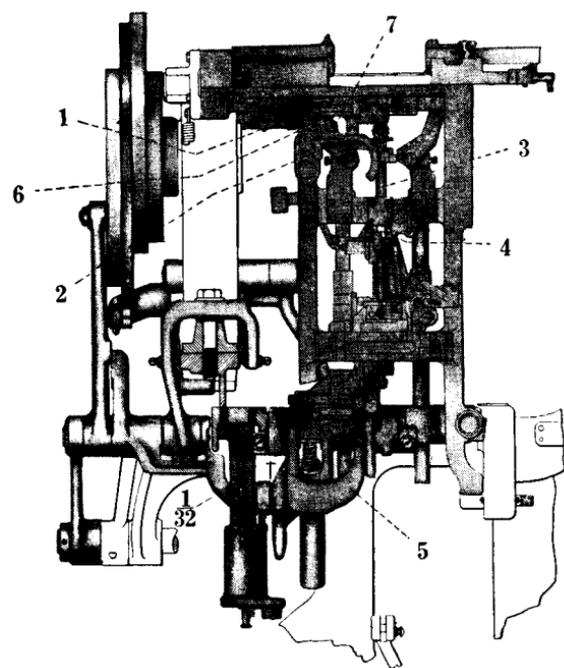
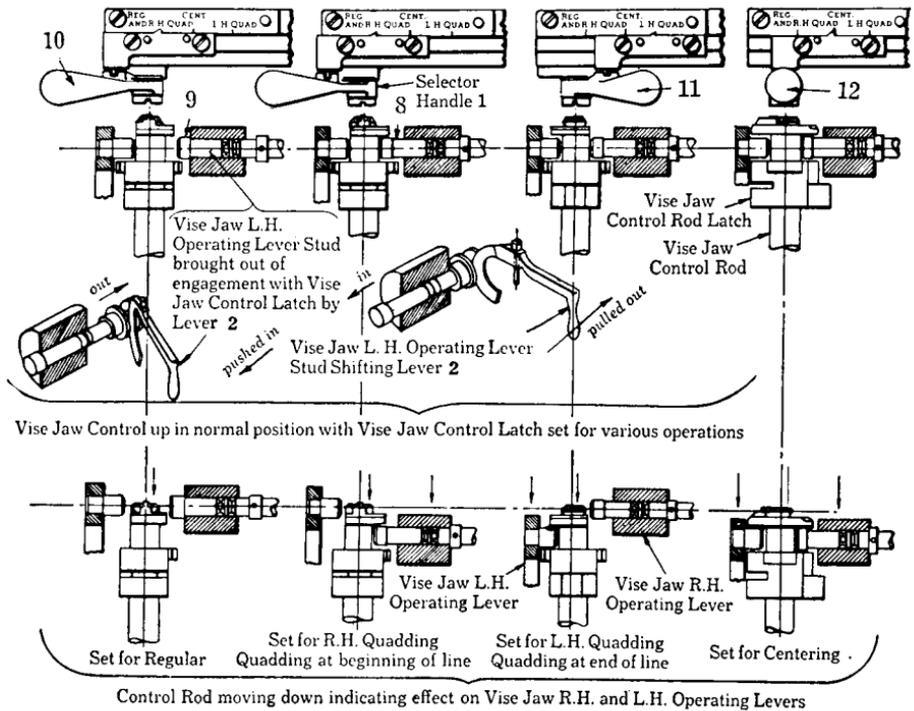

FIG. 1-32. Front view of the Self-Quadder mechanism.
FIG. 2-32. View showing position of the vise jaw control rod latch with respect to position of selector handle.
The functions of the Self-Quadder can be eliminated by simply pushing in the lever 2, Fig. 1-32 when the selector handle is set at "Reg.". The machine can then be operated as any Linotype not equipped with the device, with the exception of casting
blank slugs. Blank slugs can be conveniently cast by pulling out the lever 2, Fig. 1-32, putting the Self-Quadder back into action, which will then operate to cast blank slugs automatically.
Shift the selector handle 1, Fig. 2-32, to the position marked "Reg. and R.H. Quad.". Pull out the lever 2, Fig. 2-32, which engages the left-hand vise jaw to the control rod as shown at 8, Fig. 2-32.
**Quadding to the Left**—Follow exactly the same instructions as outlined for right-hand quadding. Shift the selector handle to the "L.H. Quad." position, as shown at 11, Fig. 2-32. The delivery slide finger is automatic in its function and it eliminates the necessity of raising and lowering finger to prevent striking the left-hand vise jaw when centering or quadding.
**Centering**—Follow exactly the same instructions as outlined for right-hand quadding. Shift the selector handle to the position marked "Cent.", as shown at 12, Fig. 2-32.
**Operating as a Regular Linotype Machine**—To use the machine normally, as a Linotype not equipped with the Self-Quadder, shift the selector handle to the position marked "Reg. and R.H. Quad.", as shown at 10, Fig. 2-32. Push in the lever 2, Fig. 1-32, as shown at 9, Fig. 2-32. Make all settings that would be necessary on a regular machine before assembling a line and casting a slug.
To Cast Blank Slugs—Blank slugs can be cast with the selector handle in any of the positions described, but the shifting lever 2, Fig. 1-32, must be pulled out when selector handle is at position marked “Reg. and R.H. Quad.” It is merely necessary to pull the starting handle to permit the cams to revolve and bring the vise jaws together in position for casting blank slugs.
**Vise Jaw Control**—The control rod 3, Fig. 1-32, is properly adjusted at the factory for correct height. If this control rod is set too high, the selector handle will not shift back and forth easily, and the right-hand vise jaw will not have sufficient end play. If the control rod is set too low, the selector handle will not operate the control rod latch, Fig. 2-32.
*Left-Hand Vise Jaw Operating Lever*—The lever 6, Fig. 1-32, is in two sections, and has an adjusting screw and lock nut. This adjustment permits the moving of the left-hand vise jaw so that an exact center can be accomplished.
Loosen the plate screws holding the two sections of lever 6, Fig. 1-32. They will be found (by opening the vise) down under left-hand jaw. These screws require a special formed wrench, which comes with the Self-Quadder.
After loosening the plate screws slightly, turn the screw 7, Fig. 1-32, turning clockwise to move the jaw forward, or counter-clockwise to move the jaw backward. After this adjustment is made, tighten the plate screws, making sure that the jaw is held to the left.